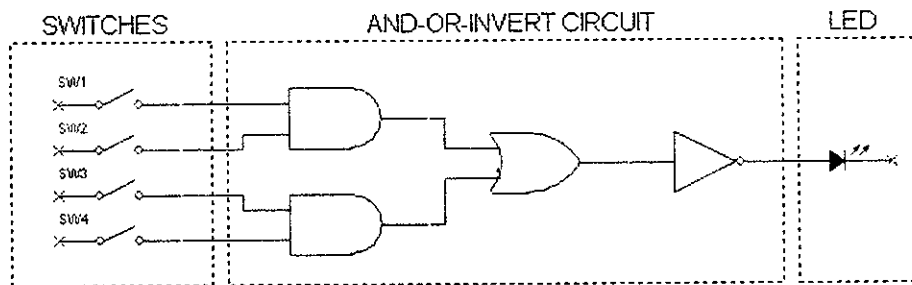

Figure 1 - AOI Block Diagram
2. Design a digital circuit using one or more of the NAND gates in a single 7400 IC that will provide the same function as a 4-input AND-OR-Invert circuit would (as depicted in Figure 1).